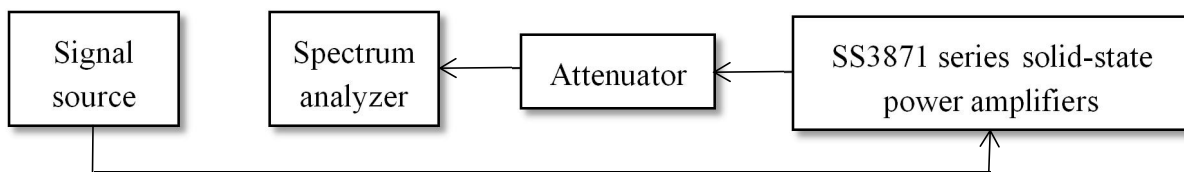

Figure 5-3 Diagram of the non-harmonic suppression test
- ① Connect the instrument as shown in Figure 5-3, turn on the power of the signal source, the amplifier and the spectrum analyzer preheating.
- ② Set the operating range of the spectrum analyzer to 30GHz - 50GHz, set the initial operating frequency of the signal source to 32GHz, with the stepping by 1GHz, adjust the amplifier to the 1dB compression point output power state of each operating frequency point in turn according to the test method of 1dB compression point for the output power of the amplifier, and record the difference between the peak value of fundamental wave and the non-harmonic wave of the spectrum analyzer, which should meet the indicator requirements at most operating frequency points.